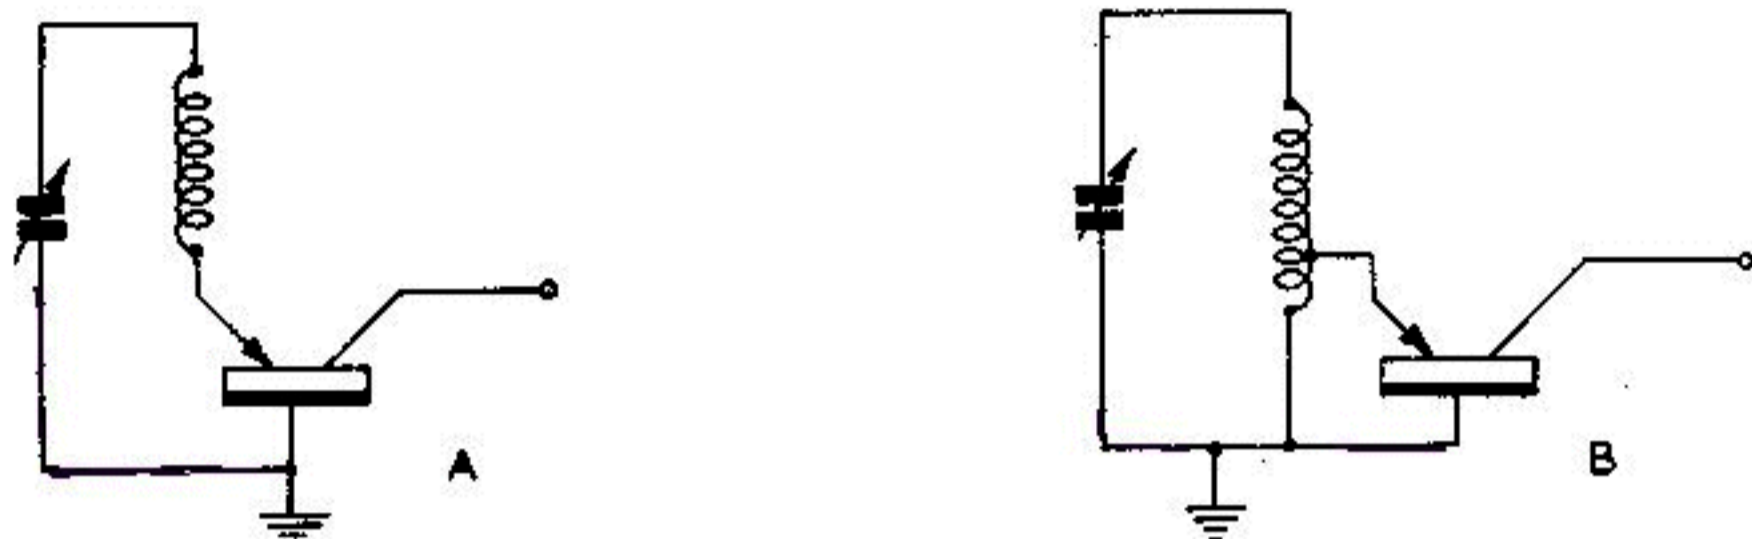

FIG. 4.
transistor in series with a High-Q tuned circuit for efficient amplification (Fig. 4). This would be the exact converse of the ideal valve which consumes no grid current when a voltage is applied to the grid. The valve is so close to this ideal, that we do connect it directly in parallel with High-Q tuned circuits with no ill effect.
Fig. 4. A perfect "zero input impedance" transistor could be included in series with a High-Q tuned circuit for high gain amplification (A). Actual transistors have a low but appreciable input impedance of about 300  $\Omega$ , and are tapped well down a tuned circuit for matching (B)